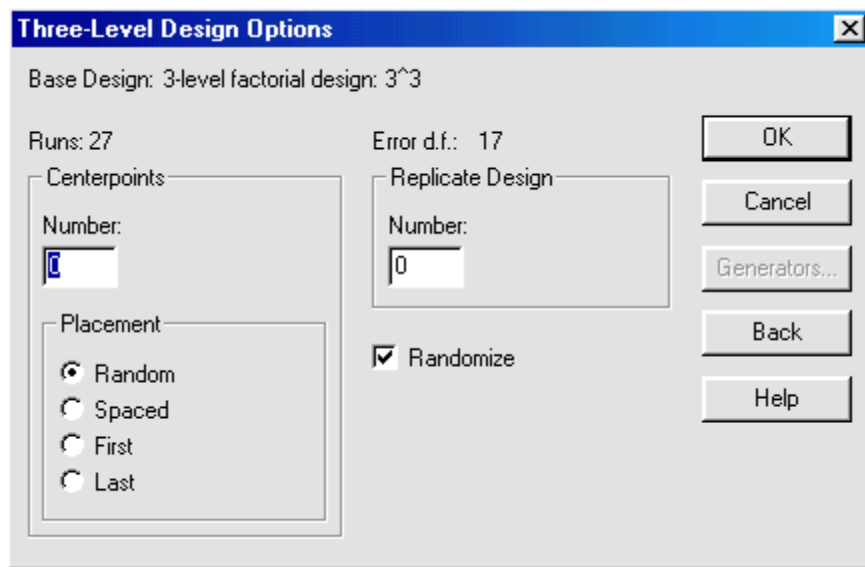

Figure 11-5. Three-Level Design Options Dialog Box
9. Click OK to display the Three-Level Design Options dialog box shown in Figure 11-5.